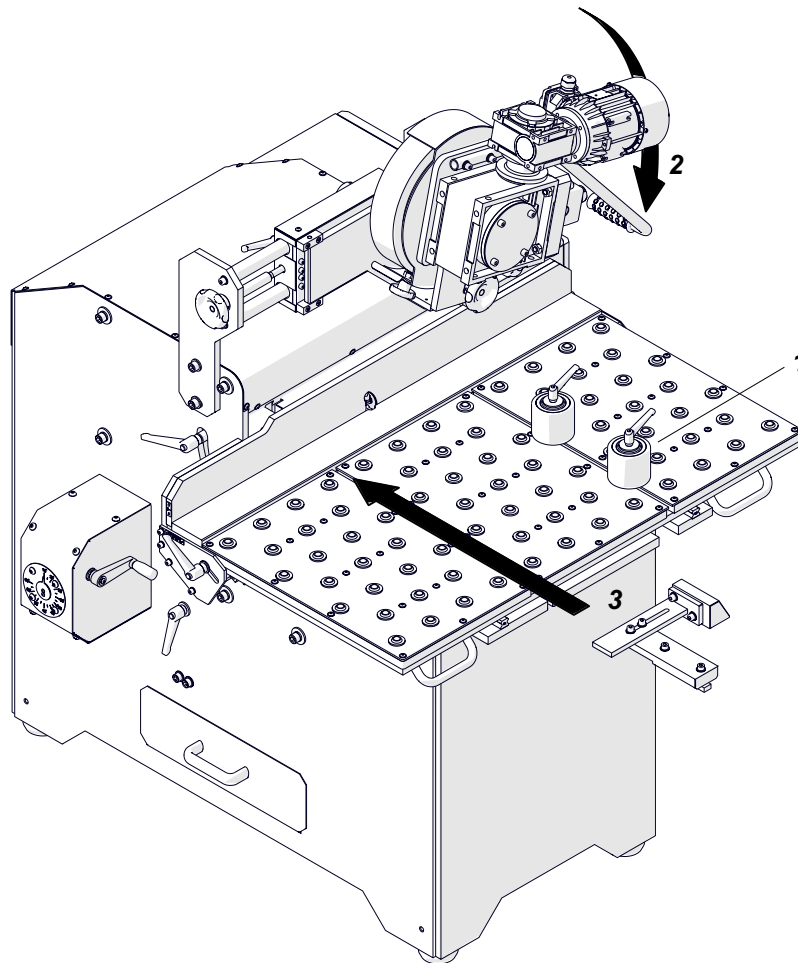

Fig. 15. Installing the pipe attachment
To install the attachment, set the milling head penetration to zero (Fig. 6b). Then, move the roller from the left groove to the right groove (1, Fig. 15). Next, lift the feed unit (2) and move the attachment into the left groove (3).